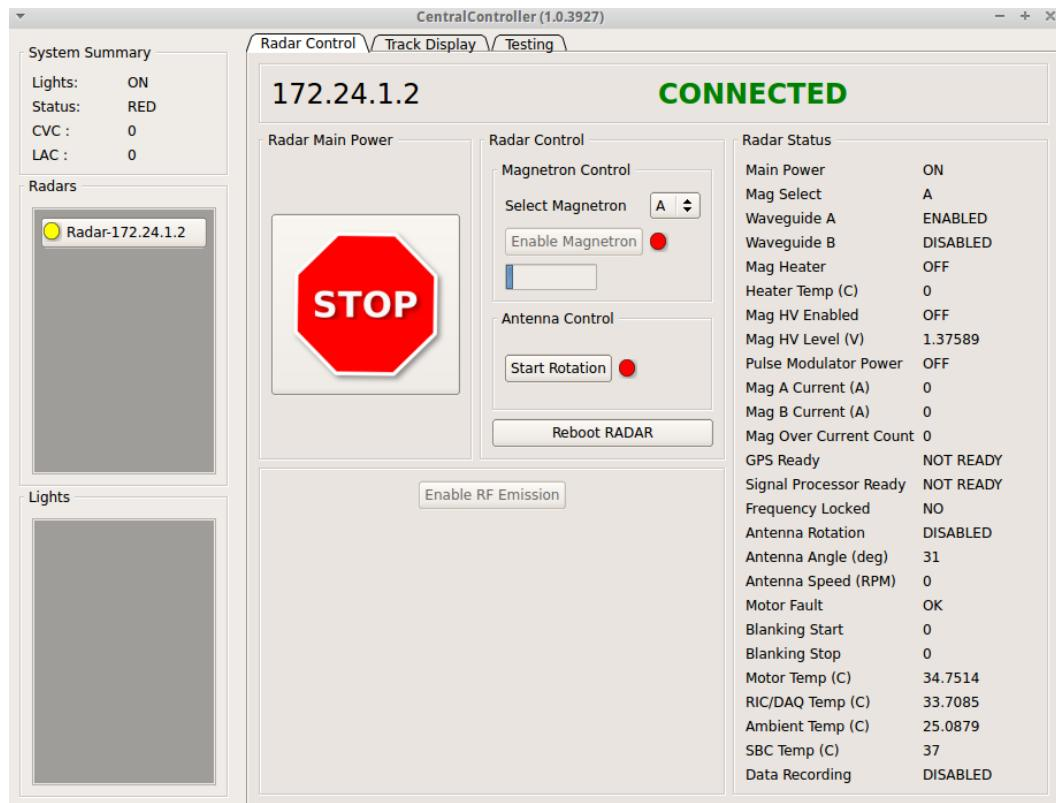

Figure 8. Radar Control GUI when connected to a Pulse Doppler Radar.
- When the Radar Control GUI has connected to the Radar Processor and the “Main Power On” has been selected, the GUI should resemble that shown in Figure 8. Note that the Radar Status values in the right-hand column are updated periodically.